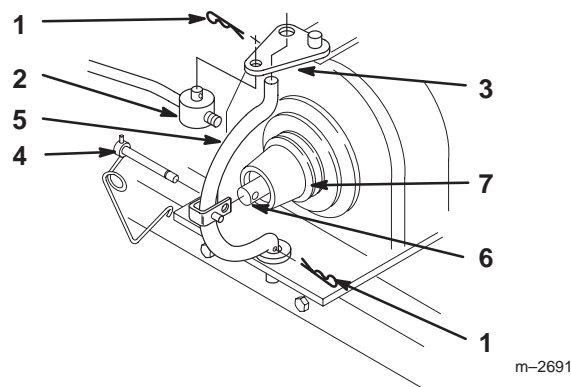

Figure 15
18. Remove hairpin cotters from trunnion and bottom of yoke (Fig. 15).
19. Unlatch and remove locking clevis pin that secures yoke assembly to clutch shaft. Pivot yoke out and forward to remove from clutch shaft and engagement plate (Fig. 15).
20. Place snowthrower belt in outer pulley groove (Fig. 15).
21. Assemble yoke and engagement plate and attach locking clevis pin, trunnion and hairpin cotters to secure (Fig. 15).